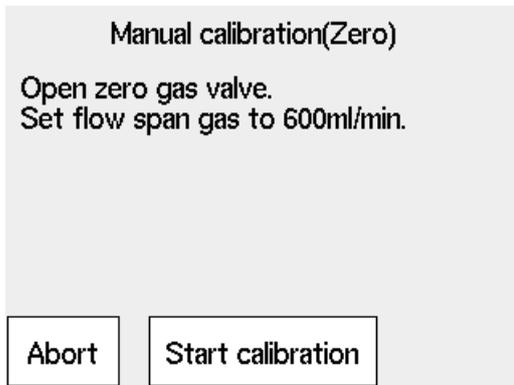

Figure 7.21 Zero gas flow rate check
- (7) Follow the instructions in the display as in Figure 7.21 to turn on the zero gas flow. Open the zero gas flow valve for the Flow Setting Unit and adjust that valve to obtain a flow of 600 ± 60 ml/min. The valve should be adjusted by loosening its lock nut and turning slowly the valve shaft counterclockwise. Use the calibration gas flowmeter to check the flow rate.